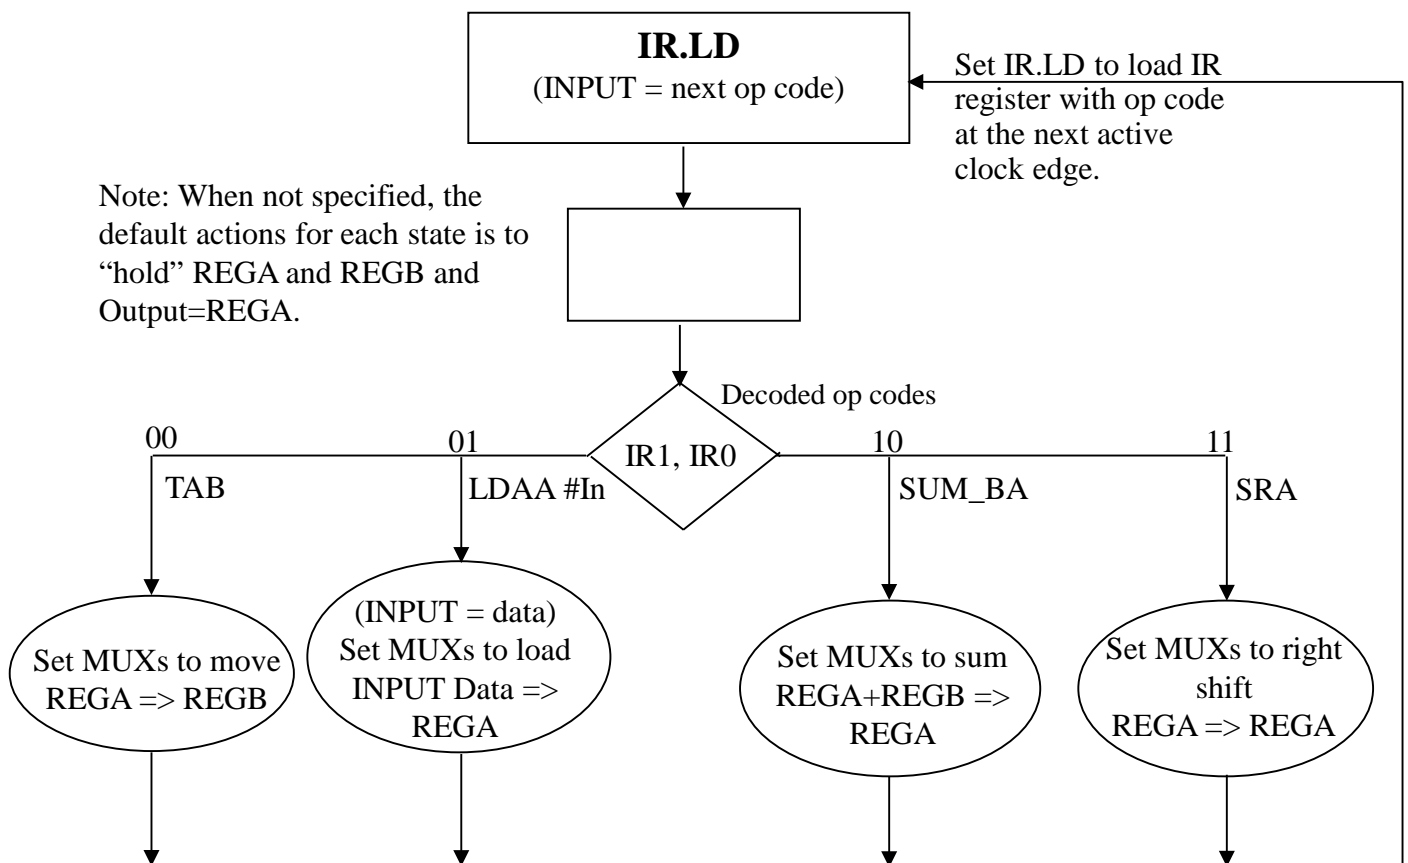

Figure 2. Controller flowchart (not an ASM)
The flowchart (**NOT** an ASM) for the controller is shown in Figure 2. All instructions execute in one cycle (plus one cycle to load the IR register). I strongly encourage you to use VHDL for the combinatorial part of the controller.
- Use the flowchart shown in Figure 2 to help you create an ASM chart. The ASM's outputs include the MUX select signals (instead of the description of actions).